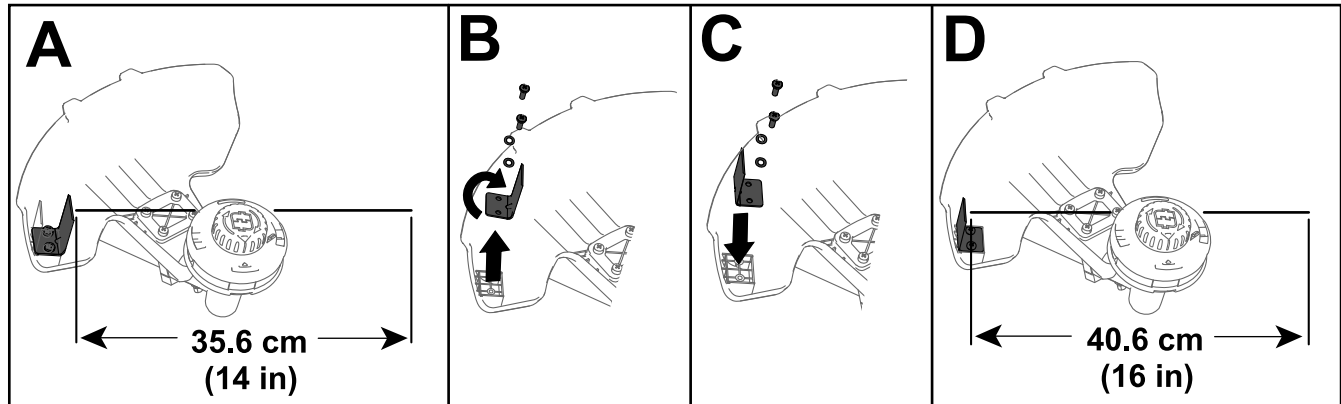

Figure 14
The trimmer comes from the factory with a cutting swath of 36.6 cm (14 inches) as shown in A of Figure 14. Refer to the following instructions to adjust the swath to 40.6 cm (16 inches) as shown in D of Figure 14.
1. Remove the swath blade from the bottom of the guard by removing the 2 screws holding it in place using the provided Allen wrench (B of Figure 14) and rotate the swath blade 180°.
2. Once the swath blade is rotated, install it onto the guard using the 2 screws previously removed (C of Figure 14).